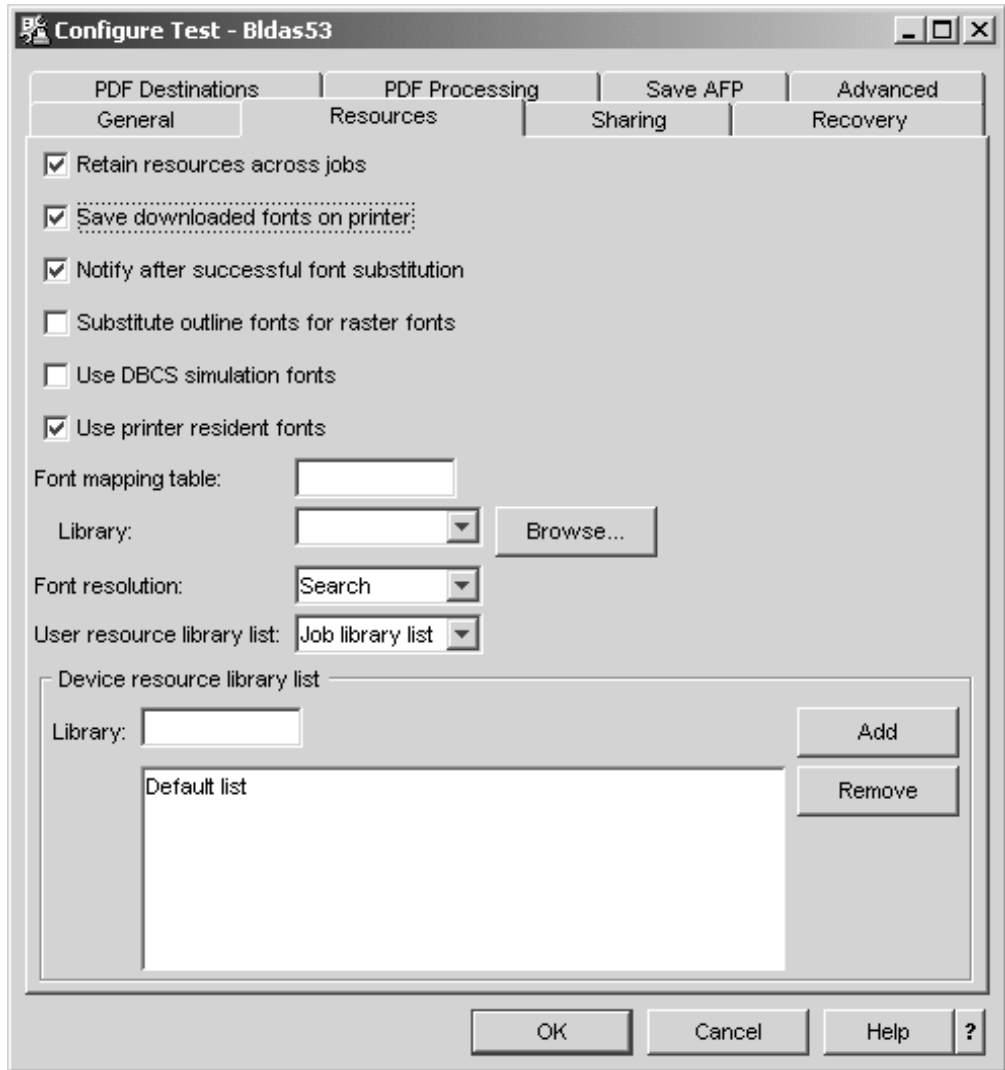

Figure 202. Enabling Font Capture
- f. On the **Resources** page, make sure that **Save downloaded fonts on printer** is selected as shown in Figure 202. For help, press F1 or click **Help**.